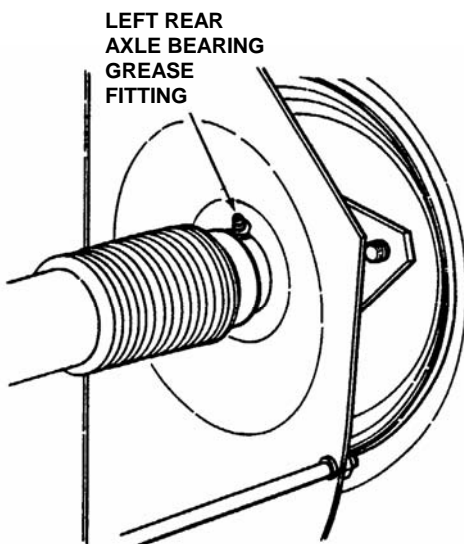

FIGURE 3.7
1. The left rear axle bearing requires three shots of general purpose grease from grease gun. See Figure 3.7.